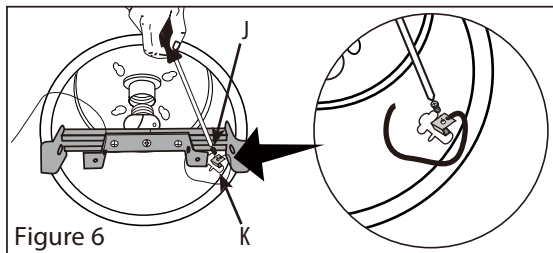

Figure 6
7. Install the green ground wire with screw (K) to the side of the recessed can using ground screw (J) (Figure 6).